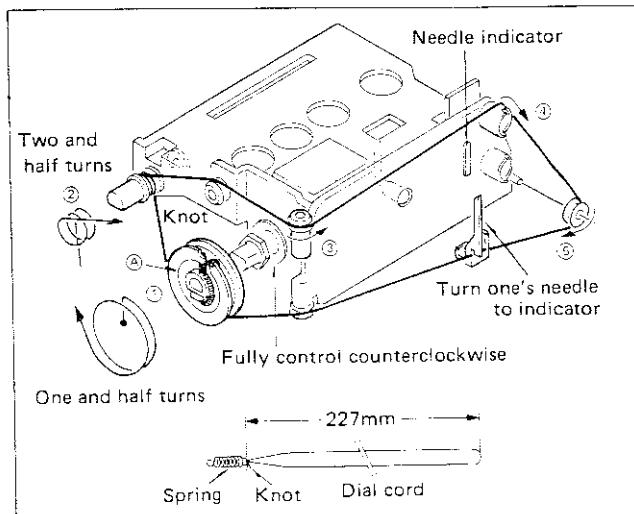

Fig. 4-1
2. After aligning the pulley marked A in Fig. 4-1 to the position indicated on the figure, set the cord in the order shown by the encircled numbers.